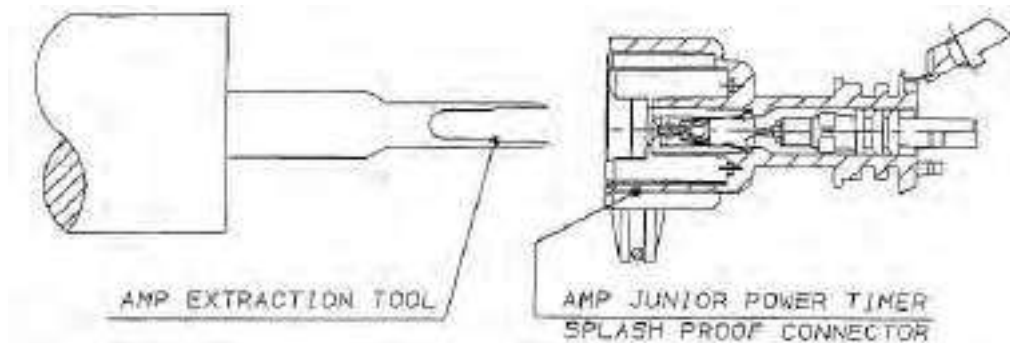

Figure 96
- e. Holding wire assembly with the other hand, gently insert extraction blade into cavity until the fork shifts the latching system as shown in Figure 96.